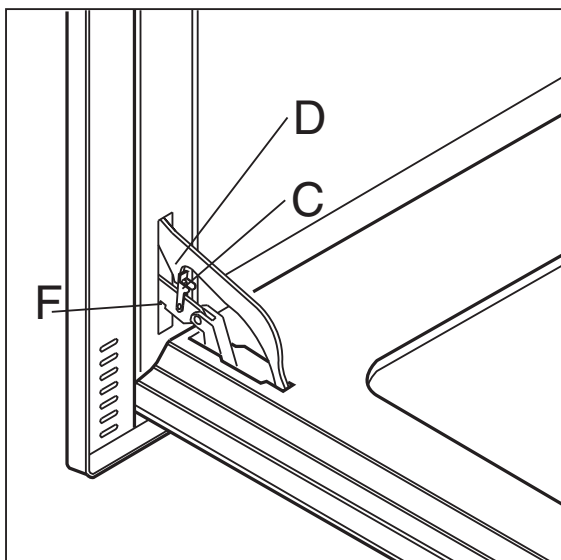

Figure 16
For ease of intensive cleaning it is practical to dismantle the door following these instructions: insert the hook (C) (Fig. 16) in the hinge sector (D). Put the door in half-open position and, using both hands, pull the small door towards you until it uncouples from the connection. To reassemble the door, proceed in inverse order, taking care to insert the two guides (F) correctly.